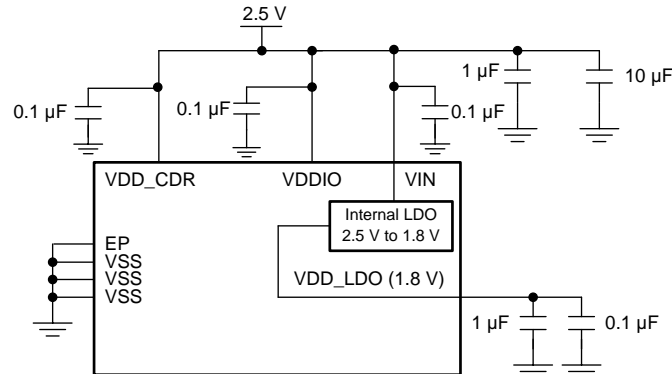
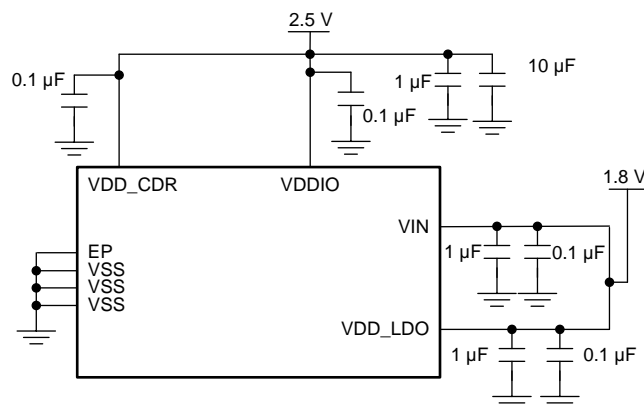

图 27. Typical Connection for Single 2.5 V Supply
图 28. Typical Connection for Dual 2.5 V and 1.8 V Supply
The LMH1226 is pin compatible with LMH1219 (12G UHD cable equalizer with integrated reclocker). Both LMH1219 and LMH1226 devices support Single Supply Mode and Dual Supply Mode as shown in 图 27 and 图 28, respectively.
- **Single Supply Mode (2.5 V):** This mode offers ease of use, with the internal circuitry receiving power from the on-chip 1.8 V regulator. In this mode, 2.5 V is applied to VDD\_CDR, VIN, and VDDIO. See Figure 27 for more details.
- **Dual Supply Mode (2.5 V and 1.8 V):** This mode provides lower power consumption. In this mode, 1.8 V is connected to both VIN and VDD\_LDO. VDD\_CDR, and VDDIO are powered from a 2.5 V supply. See Figure 28 for more details.